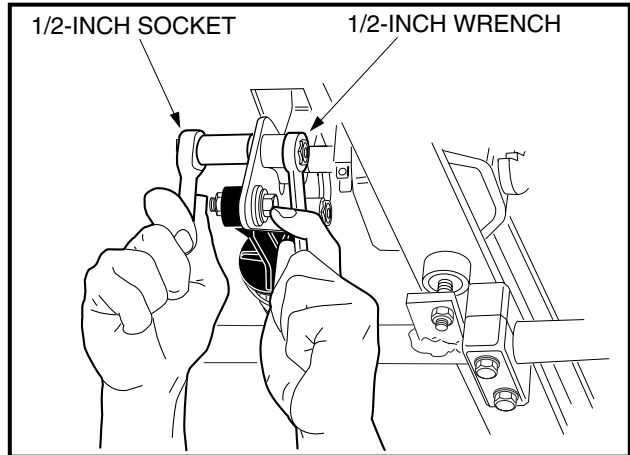
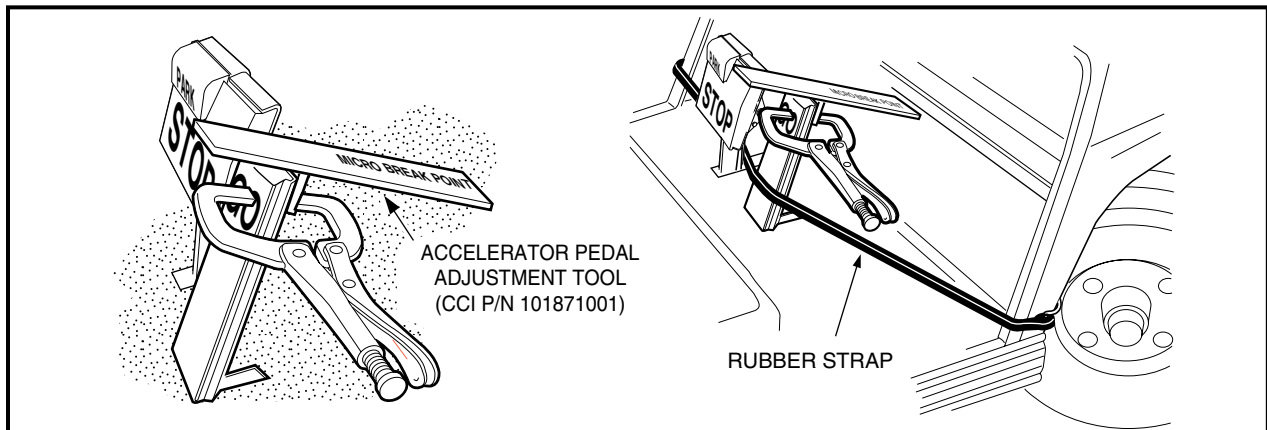

Figure 5-17 Accelerator Pedal Height Adjustment
Figure 5-18 Accelerator Pedal Height Adjustment
- 4.1. Loosen the nut and bolt (Figure 5-17, Page 5-14) securing the accelerator pedal to the pivot plate. Clamp the accelerator pedal adjustment tool (CCI P/N 101871001) to the accelerator pedal, with the end marked *accelerator pedal height* closest to the floorboard. Press the accelerator pedal until the end of the tool rests against the floorboard; pedal height should be 5-5/8 inches (14.3 cm). Use a rubber strap to hold pedal in position against the floorboard and then tighten nut to 26 ft-lb (35.3 N-m) (Figure 5-18, Page 5-14).